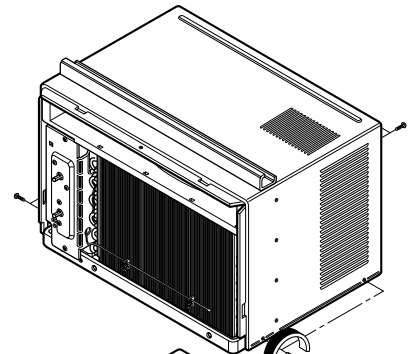

Figure 15
3. Remove 9 screws that secure the cabinet to the base pan and condenser. (See Figure 15)